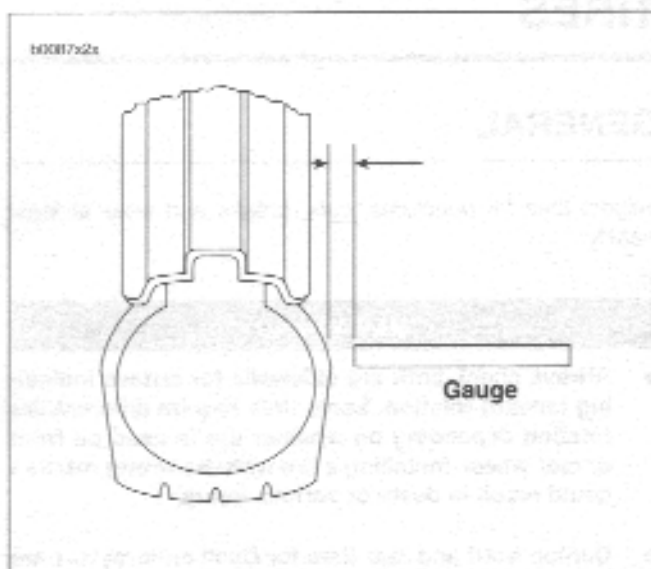

Figure 2-29. Checking Tire Lateral Runout
1. See Figure 2-29. Turn wheel on axle and measure amount of displacement from a fixed point to tire side-wall.